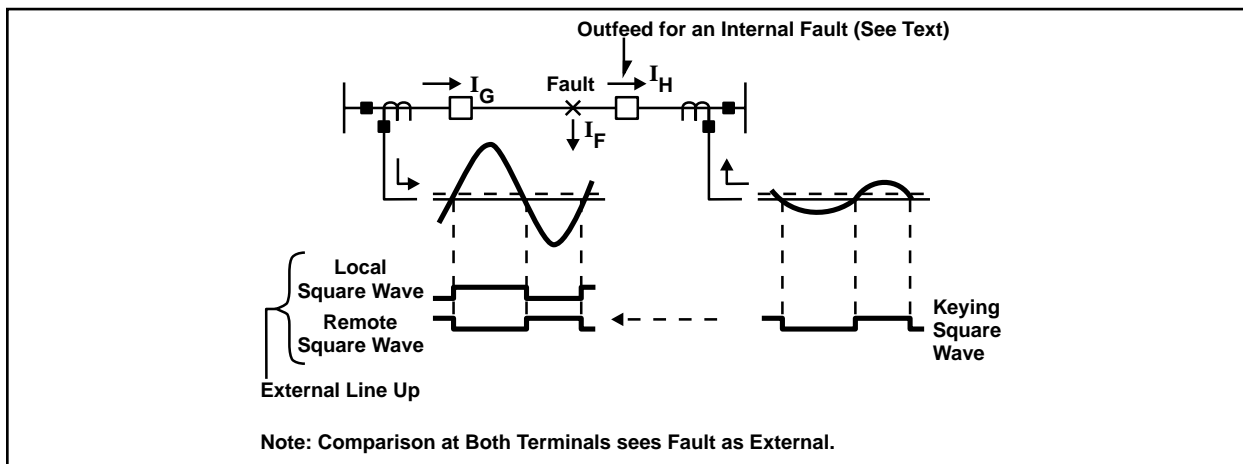

Figure 2-8. Conventional Phase Comparison Response to an Outfeed Condition Block Tripping.
To generate the local and keying square waves, conventional phase comparison systems use thresholds equivalent to (or very near) the zero axis. As a result, an internal fault with outfeed looks like an external fault to those systems (see Figure 2-8). The offset keying technique permits the relay system to trip for internal faults with outfeed current out at one terminal. While the outfeed condition is very unusual, it presents difficult problems to the great majority of pilot relaying systems when it does occur. Outfeed can occur in any of the following cases:
This relationship is illustrated in Figure 2-8, where I_G equals I_F plus I_H . While the two terminal currents may have any angular relationship with one another, most outfeed conditions display a nearly out-of-phase relationship. The out-of-phase condition illustrated is the most difficult case for phase comparison, as well as the most common outfeed condition.
Output trip signals are supervised by an arming input and a number of security checks (see Figure 2-8). Phase arming is performed by a current rate-of-change detector that responds to sudden increases, decreases, or angular shifts in current. It operates on current changes of 0.5 A or more, with an operating time of 2 ms. Ground
Security checks to comparison AND (see Figure 2-8) include (1) low channel signal blocking, (2) lockout for sustained low channel signal, (3) channel noise clamp, and (4) receive guard block. For the phase subsystems, a trip signal occurs if comparison AND has an output for more than 3 ms (4 ms for the ground subsystem).